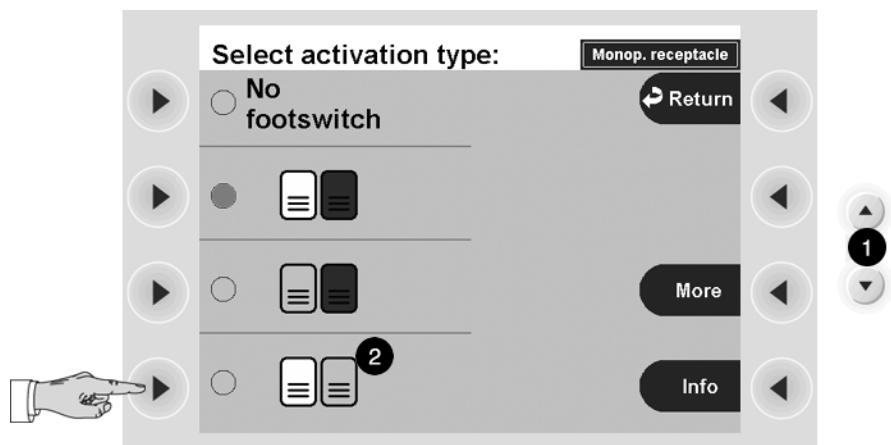
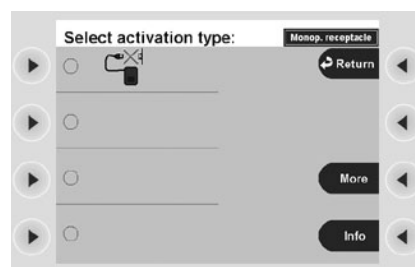

Fig. 6-16
Fig. 6-17
In the window Fig. 6-16 you will see a list of the possible footswitch allocations. Scroll with the Down button (1) to the next window Fig. 6-17. You can also use the Select button next to the "Other modes" menu item.